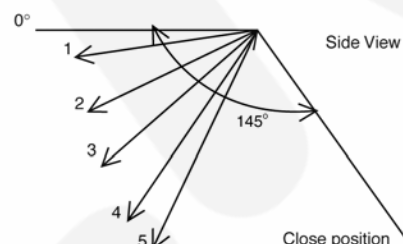

Figure 2
2. Manual vertical airflow direction can be set using remote control; the angles of the vane are as stated above and the positions of the vane are as Figure 2 below. When the air conditioner is stopped using remote control, the vane will shift to close position.